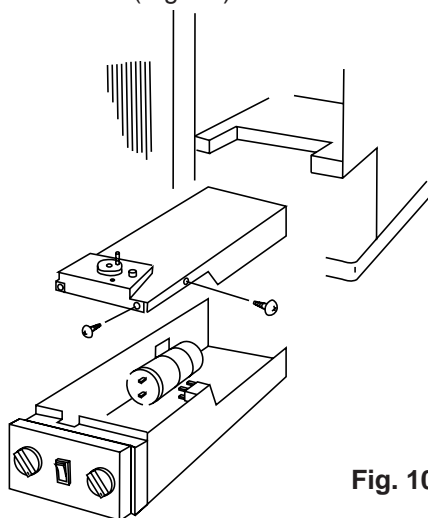

Fig. 10
- (3) Remove screw holding the lid of the electrical component box. (Fig. 10)